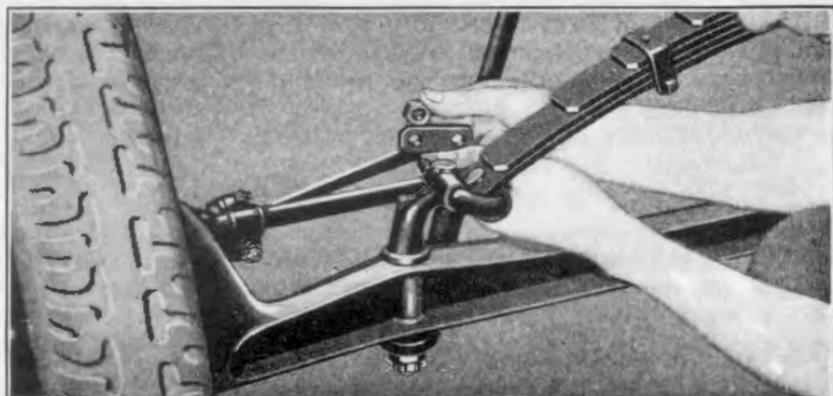

Fig. 376
- 701 Raise up front end of car with lifting hooks. Run off the two spring hanger nuts from ends of each hanger and lift off hanger bars (See Fig. 376) and withdraw hangers.
- 706 Position spring hanger bars over ends of hangers and run down the two spring hanger nuts tightly (See Fig. 376) locking the nuts with cotter keys.